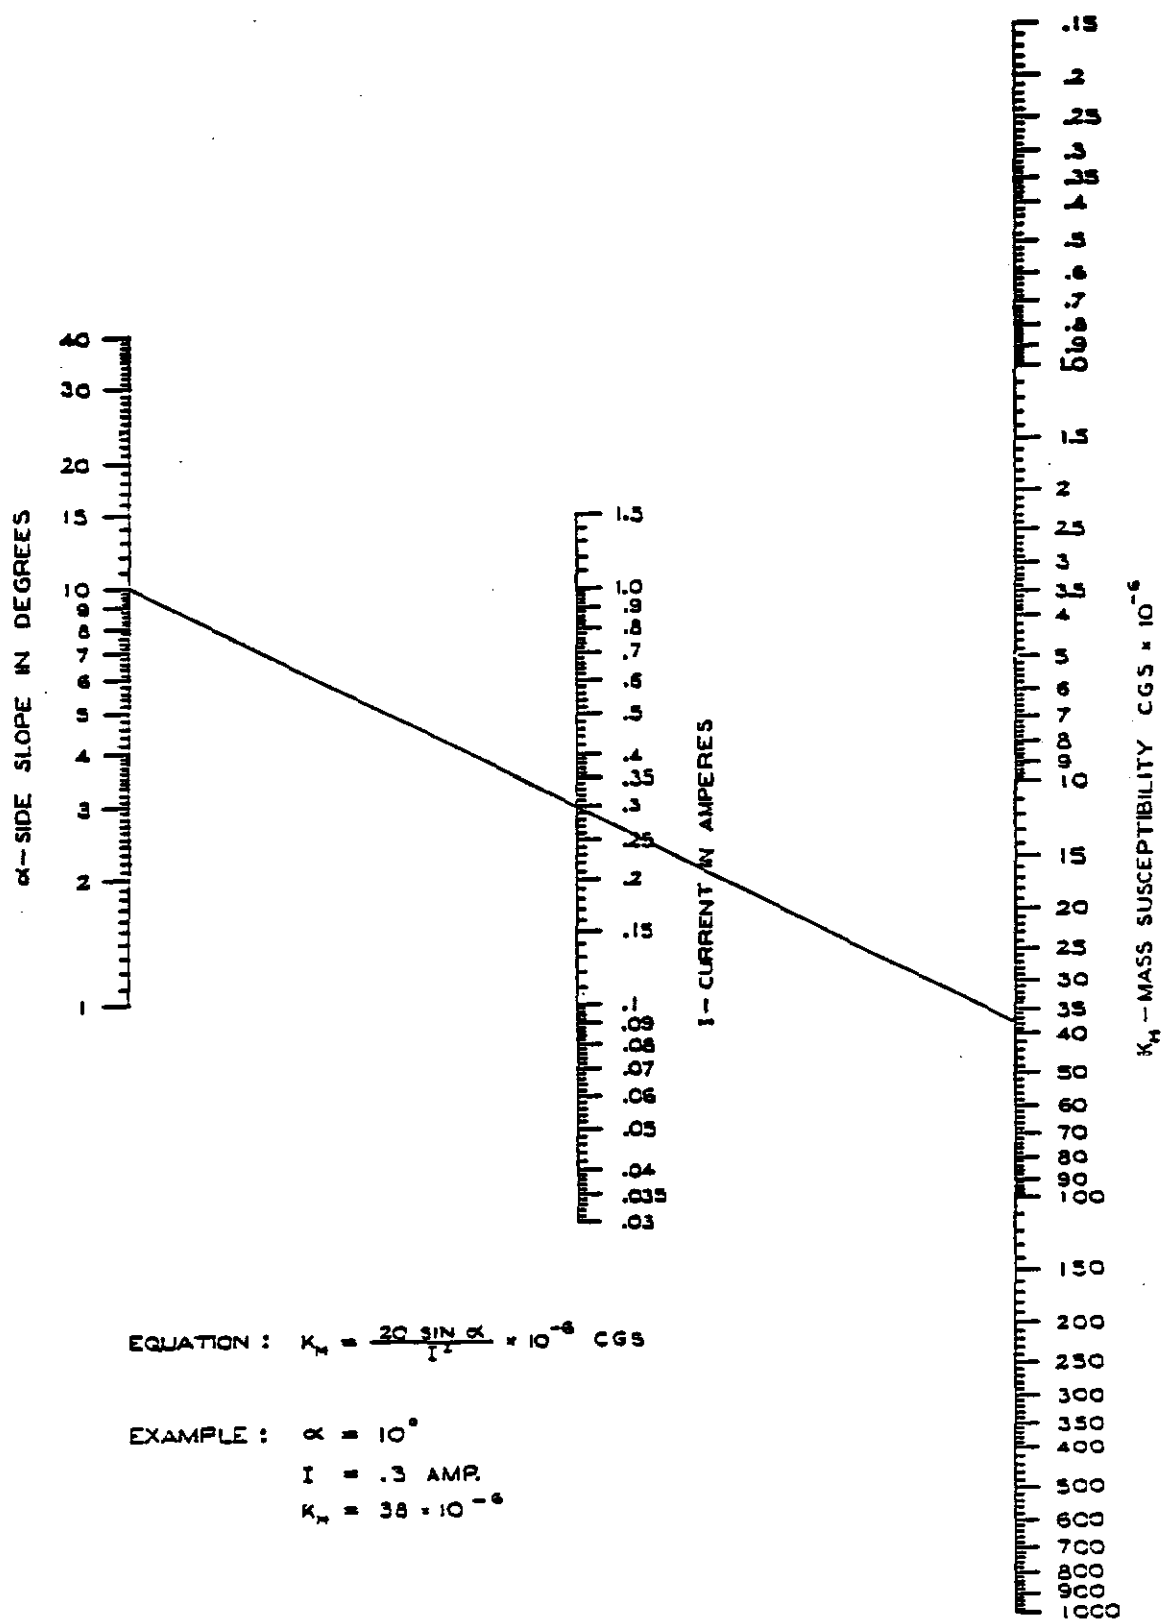

Figure 3. Side slope, current, and mass susceptibility for the Frantz isodynamic separator. (H. H. Hess, 1959).
3. Start feeding sand into the small metal funnel. Do not feed too many grains at a time. Adjust the intensity of the magnetic field (large black knob on the side of the separator) and read the intensity on the dial. Refer to the charts at the end of this section for the proper settings (Table 5 and Figure 3). Adjust the vibrator (small knob in front) until there is an even flow of grains.